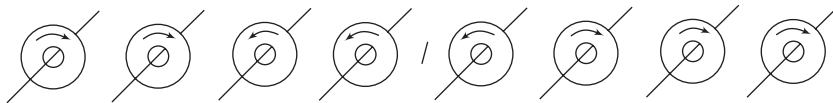

Fig. 1.16 An 8-bit Core Register.
17. In Fig. 1.16, clockwise flux stands for binary 1 and counterclockwise flux stands for binary 0. What is the binary number stored in the 8-bit core register?